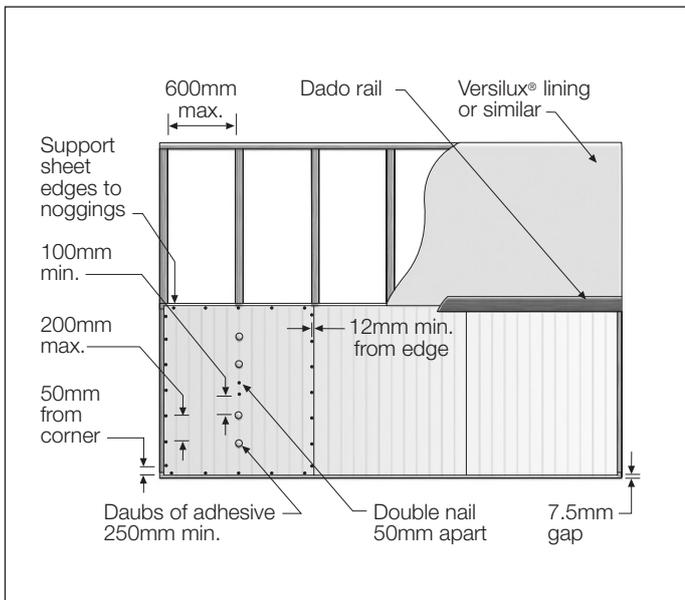

FIGURE 7 DADO HEIGHT FIXING
To reduce the number of visible fixings the centre of the sheet can be fixed with adhesive. See Figure 7 for details.
HardieGroove lining may be installed to half the wall height to create a dado appearance. Ensure top of sheet is fixed to an in-line row of noggings as shown in Figure 7.
1. Fastener fixing method is shown, however, fastener/adhesive fixing method may also be used. See Figure 7.